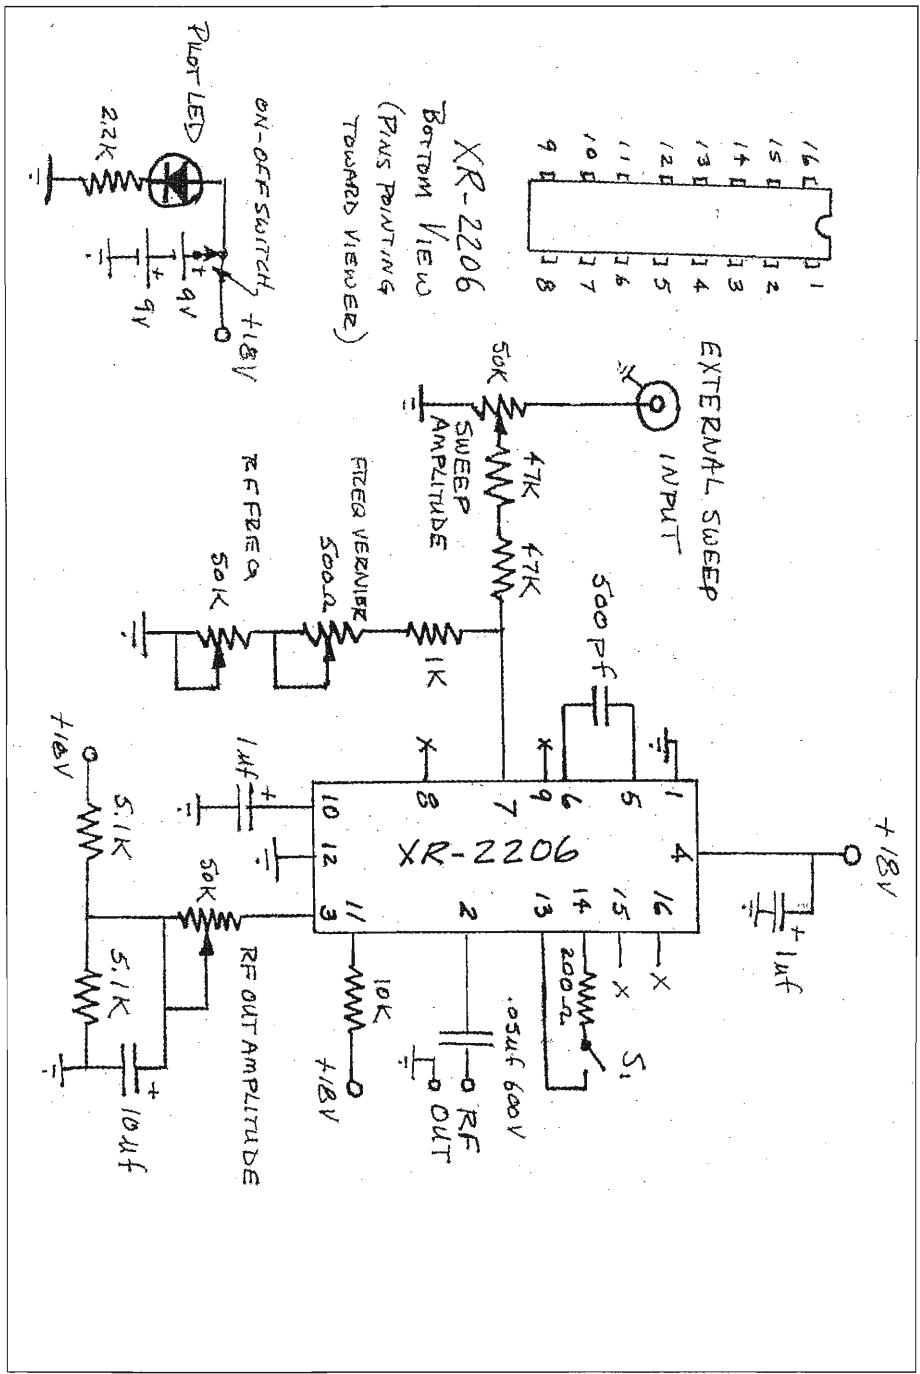

Figure 1: The single-chip sweep generator suitable for use with an oscilloscope with a sweep waveform output.
**Figure 1** is the circuit of the single-chip generator. +18 V is the positive power supply terminal. It should be between 10 and 26 volts. I am using two 9-volt transistor radio batteries in series. The negative side of the power supply is connected to ground. You can get fancy like I did and put a switch on the batteries and an LED "pilot light" to remind you not to leave the power on and run down the batteries, or you can just connect them with a couple of snap-on clips if you wish. Pins 8, 9, 15, and 16 of the IC are left open. If you want only a sine wave output, you can just eliminate the switch S1 and connect the 200-ohm resistor directly between pins 13 and 14. Triangle waves are available at pin 2 with S1 open. Square wave output is available at pin 11. Triangle and square waves will contain odd order harmonics (3rd, 5th, 7th, etc.) as well as the fundamental frequency in case you need a swept signal above the frequency range that the generator can cover with sine waves. I put a 600-volt blocking capacitor on the pin 2 sinusoidal output just to keep any B+ from the receiver being serviced from damaging the IF signal generator.